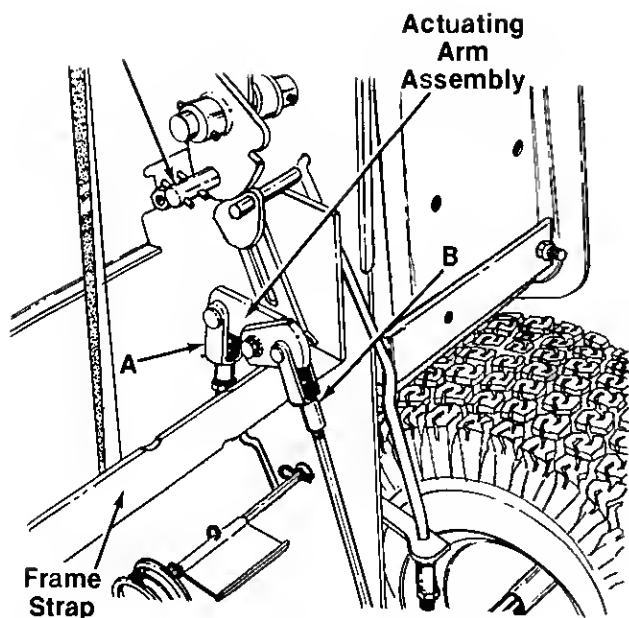

FIGURE 16.
NEUTRAL ADJUSTMENT FOR THE SPEED CONTROL LEVER (See figure 16.)
Spring from pedal assembly to frame strap was removed in figure 16 for clarity only.
1. Remove the cotter pin and clevis pin from turnbuckle (A) at actuating arm assembly. See figure 16.
3. Retighten hex nut and reassemble the clevis pin and cotter pin and spread. See figure 16.
2. Remove the cotter pin and clevis pin from turnbuckle (B) at actuating arm assembly. See figure 16.
6. If rear wheels do not turn, turnbuckle (B) is adjusted properly.
8. Secure the clevis pin with cotter pin and spread. See figure 16.